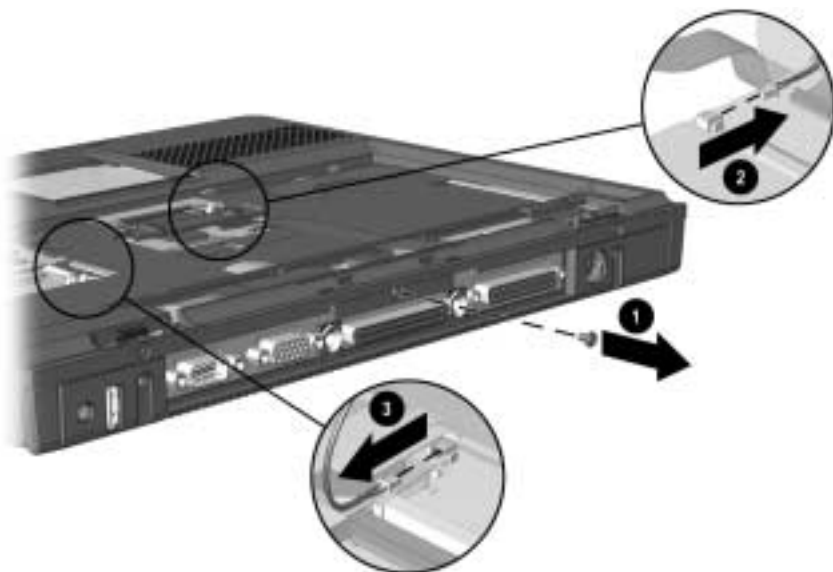

Figure 5-20. *Removing the Top Cover Rear Panel Screw and Disconnecting the Speaker Cables*
8. Remove the screw ❶ that secures the top cover to the base enclosure (Figure 5-20).
9. Disconnect the left ❷ and right ❸ speaker cables from the system board.